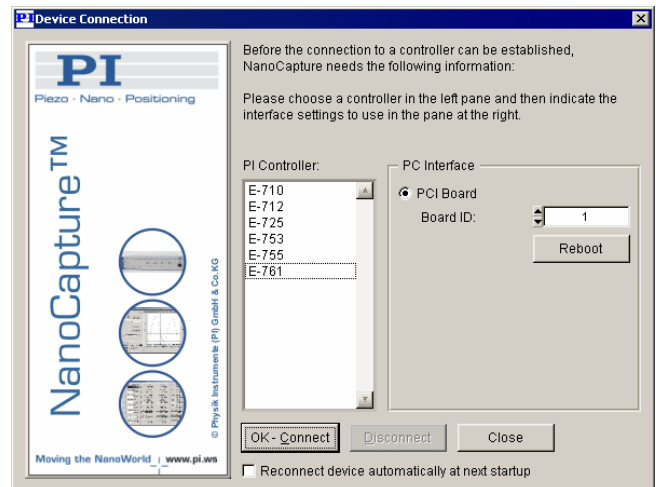

Fig. 4: *NanoCapture™* Device Connection window before connection
2. When *NanoCapture™* is started for the first time, the *Device Connection* window will be displayed (Fig. 4). (Thereafter, the software can initialize the connection automatically.)